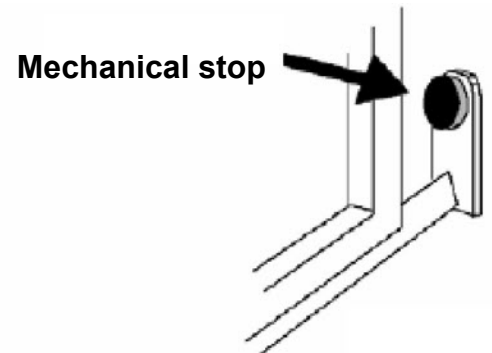
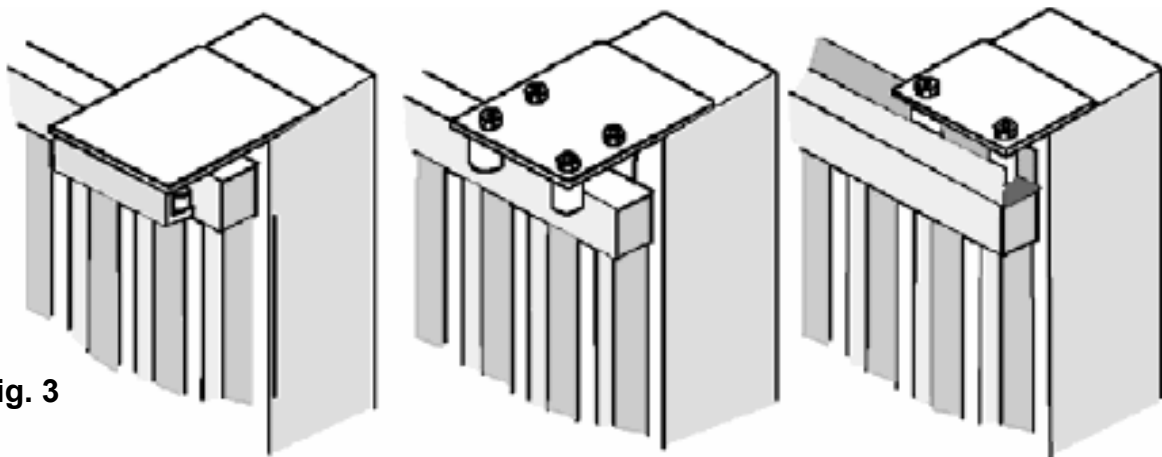

Fig. 2
Fig. 3
- Also check that the runner on the ground (**Fig. 1**) is not deformed, is perfectly level and that the mechanical stop is present on opening (**Fig. 2**) in order to **prevent** the gate from going beyond the upper runners (**Fig. 3**)
- Check the upper runner (**see Fig. 3**) is firm and the gate slides freely.
Position the operator and fasten it with the bolts provided. **(Fig.2)**.
Fasten the rack to the gate firmly, leaving a distance of between 2 and 3 mm from the motor pinion **(Fig.3)**.